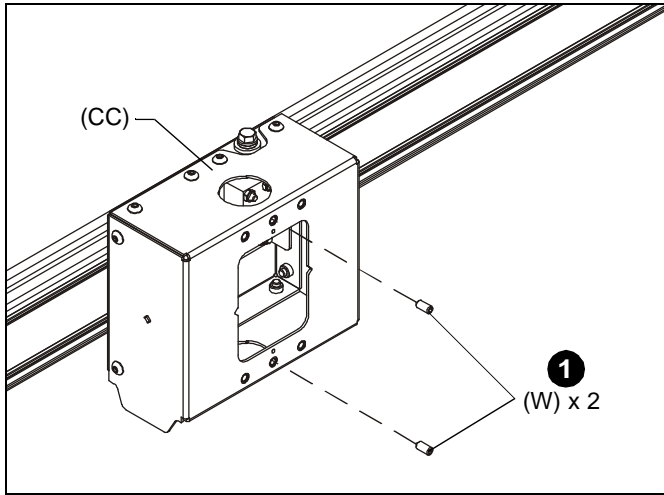

Figure 4
1. Insert two 5/16" x 3/4" set screws (W) into back of ceiling mount (CC). (See Figure 4)